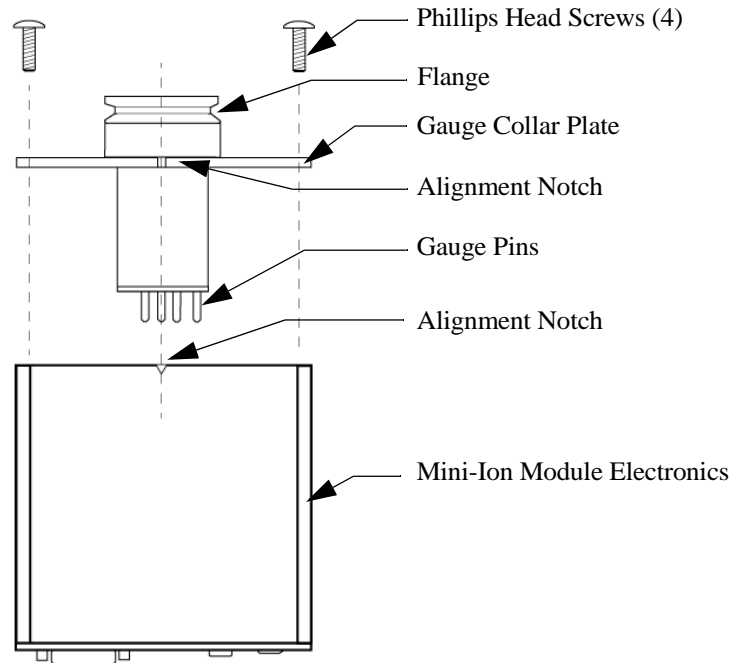

Figure 4-1 Mini-Ion Vacuum Gauge Module Removal
4. Remove the four Phillips head screws from the gauge collar plate as shown in Figure 4-1.
5. While holding the flange, *gently* pull the Module away from the gauge collar plate as shown in Figure 4-1. The gauge tube and plate will disconnect from the module.